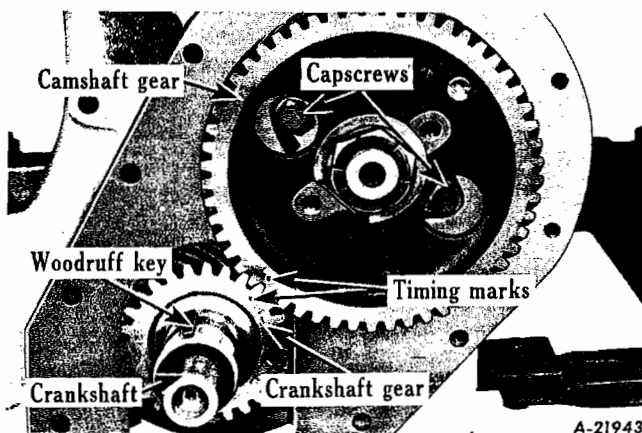

Fig. 24 - Timing gear timing marks and camshaft thrust plate details.
3. Remove two self-locking capscrews from camshaft retainer thrust flange plate, working through two holes in camshaft gear (Fig. 24). Pull camshaft and gear assembly from cylinder block. Remove